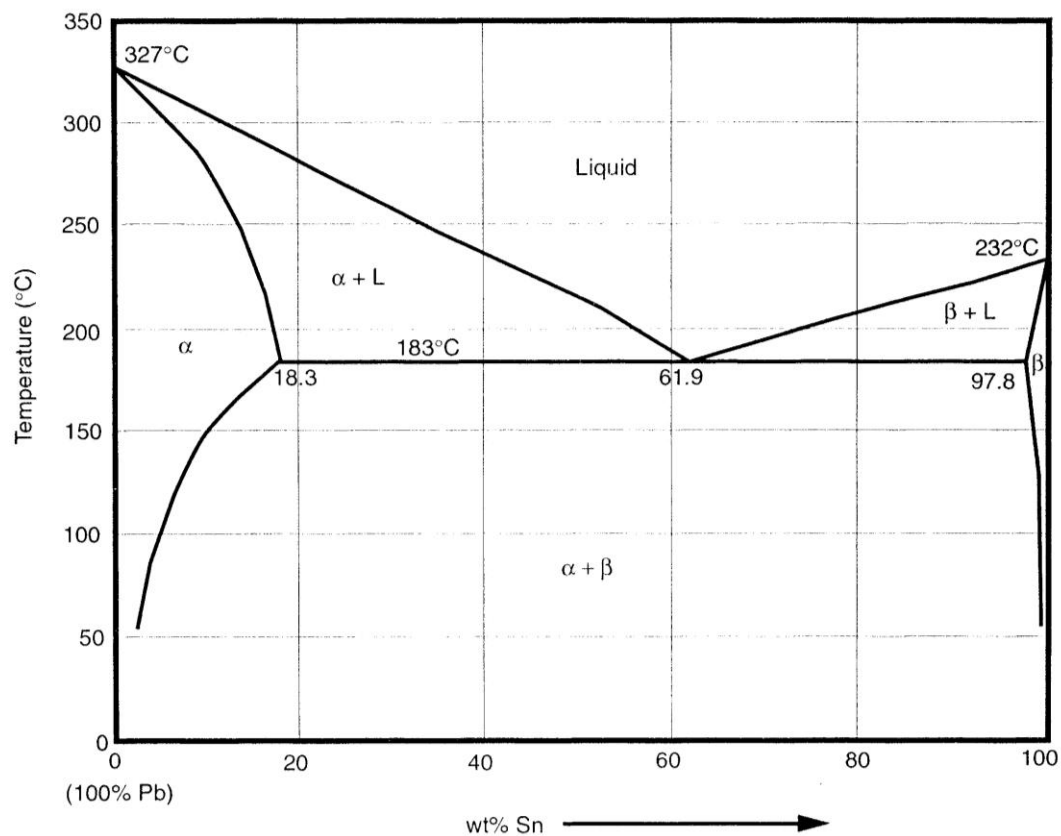

Figure 1: Lead – tin alloy phase diagram
- (a) Describe the **THREE (3)** categories in solubility. (9 marks)
- (b) By referring lead-tin alloy phase diagram in Figure 1 below, for 55% wt Pb-45% wt Sn at temperature 200°C,